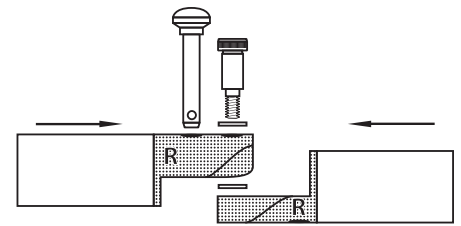

figure 1 - arm connection
3. Attach the front vertical bars to the front two 90° elbows. Place the flats together making sure the white delron washer is in place. Be sure the lubricating washers (should be shipped in place but check to make sure) are on the 1/2-18 x 1" (BOLT E) socket head shoulder bolts, and insert and tighten them on both sides. Straighten the front vertical bars until the 1/2" holes line up, then put 1/2 x 2" (BOLT D) ball lock hitch pins in both sides. Make sure the front vertical bar matches the front 90° elbow. This is done by matching the "R"s together and the "L"s together. **FIG. 1**